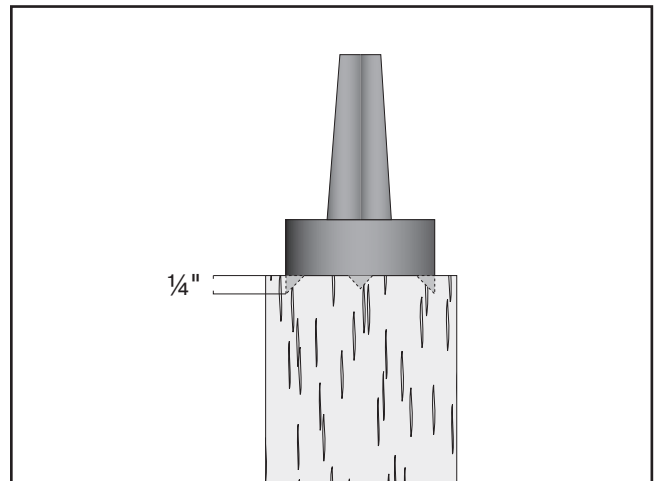

Figure 37. Spur center properly embedded.
5. Drive the spur center into the center of the workpiece with a wood mallet to embed it at least $\frac{1}{4}$ ", as shown in **Figure 37**.